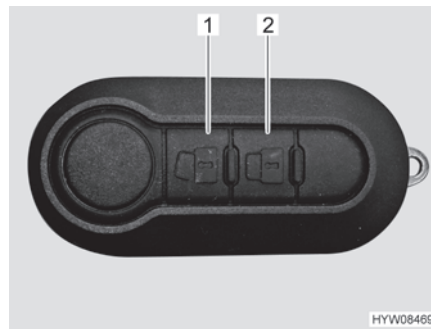

Fig. 32 Remote control for central locking system (2 buttons)
- Press the  button (Fig. 32,1) once briefly. The door locks are unlatched.
- Press the  button (Fig. 32,2) once briefly. The door locks are locked.